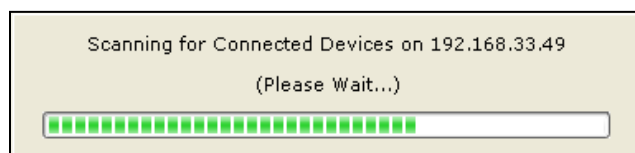
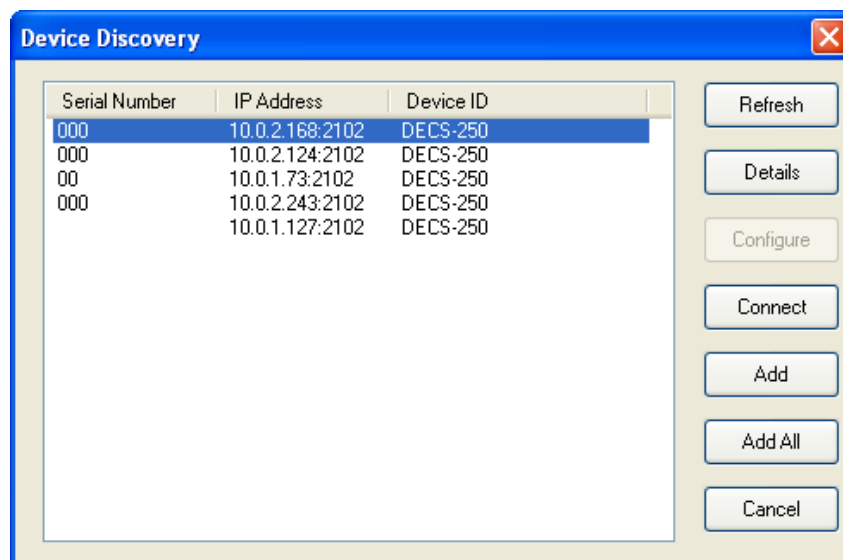

Figure 144. Scanning for Connected Devices
Figure 145. Device Discovery Window
4. If you don't know the IP address, you can perform a scan (Figure 144) to search for all connected devices by clicking the *Ethernet* button in the Device Discovery box. After the scan is complete, a window containing the connected devices will be displayed. (Figure 145)